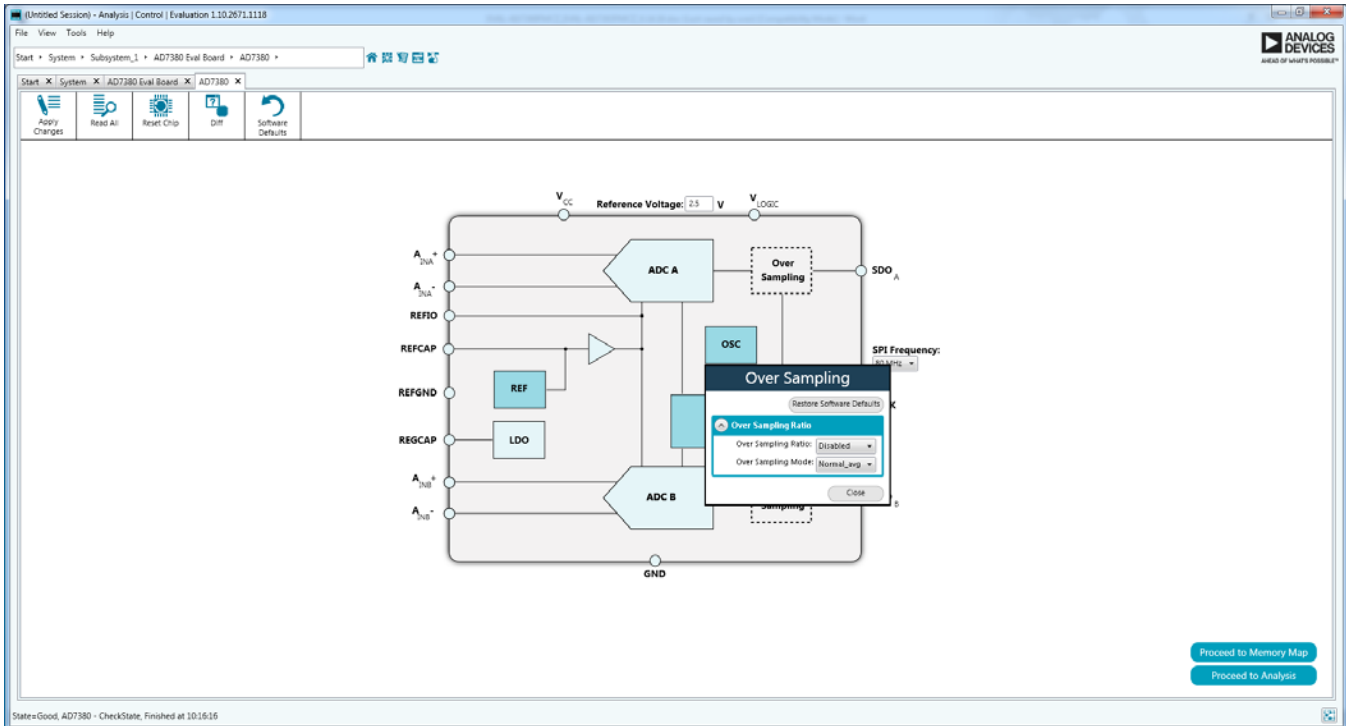

Figure 15. Pop-Up Configurable Window
1. Block icons that are dark blue are programmable blocks. Clicking a dark blue block icon opens a configurable pop-up window that allows customization for the data capture, as shown for the over sampling block in Figure 15.